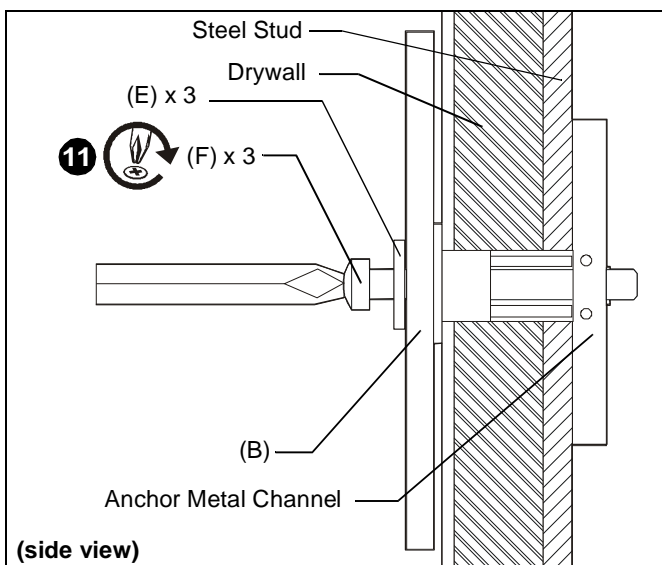

Figure 9
10. Place wall bracket (B) over anchors and align mounting holes in wall bracket with holes in anchors. (See Figure 9)
11. Insert 1/4-20 x 1-3/4" Phillips pan head screws (F) through 1/4" washer (E), corresponding hole on wall bracket and into anchor (G) and tighten until flush against bracket. DO NOT overtighten! (See Figure 9)